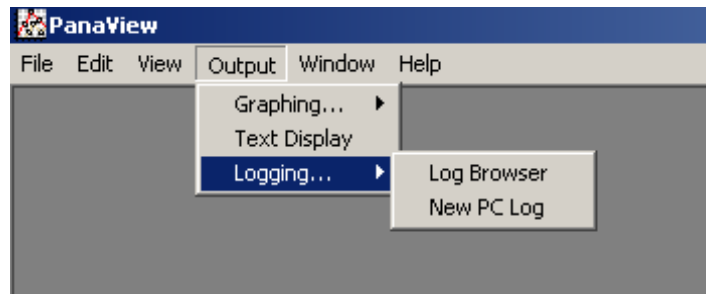

Figure 13: Saving signal array Data to File
- If you double-click on *to file*, another window opens similar to *Figure 13* below. Enter a file name and click [save]. PanaView stores the array data in a Windows file, and closes the *calibration/test* window.
- If you double-click on *to file*, the *save as* window (similar to *Figure 13 on page 41*) opens. Enter a file name and click [save]. PanaView stores the array data in a Windows file, and closes the *calibration/test* window.